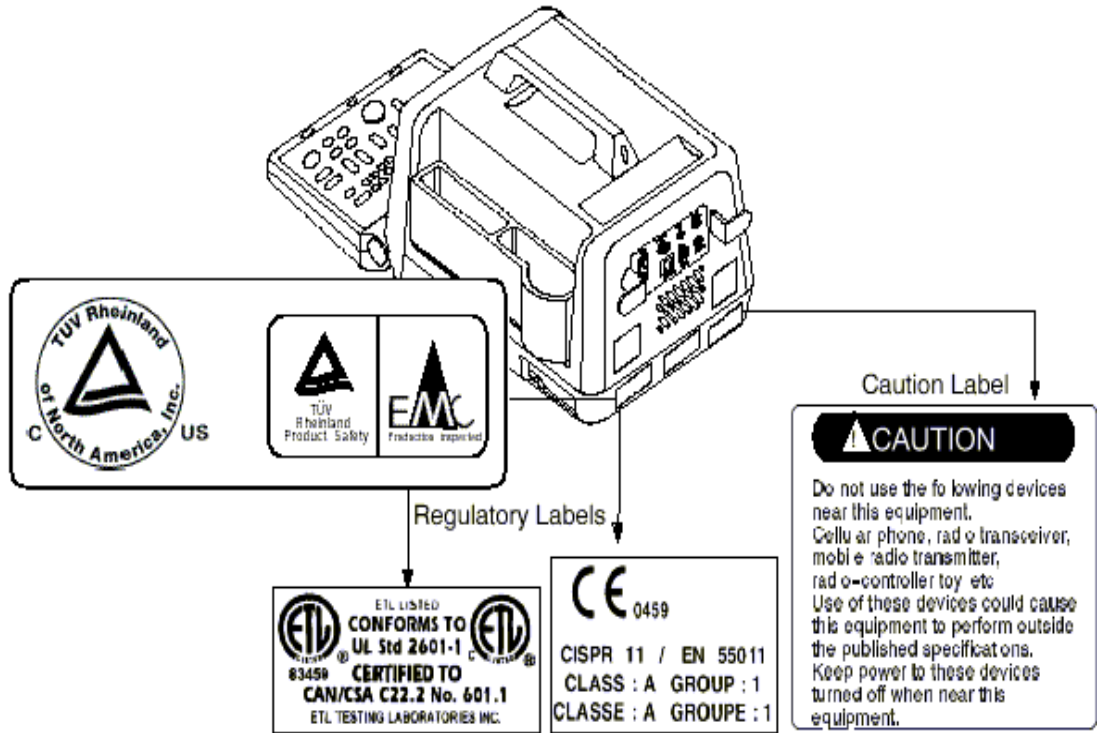

Figure 1-2 Warning Lables
- 5.) Concerning outside markings, refer to Figure 1-2 through 1-3.